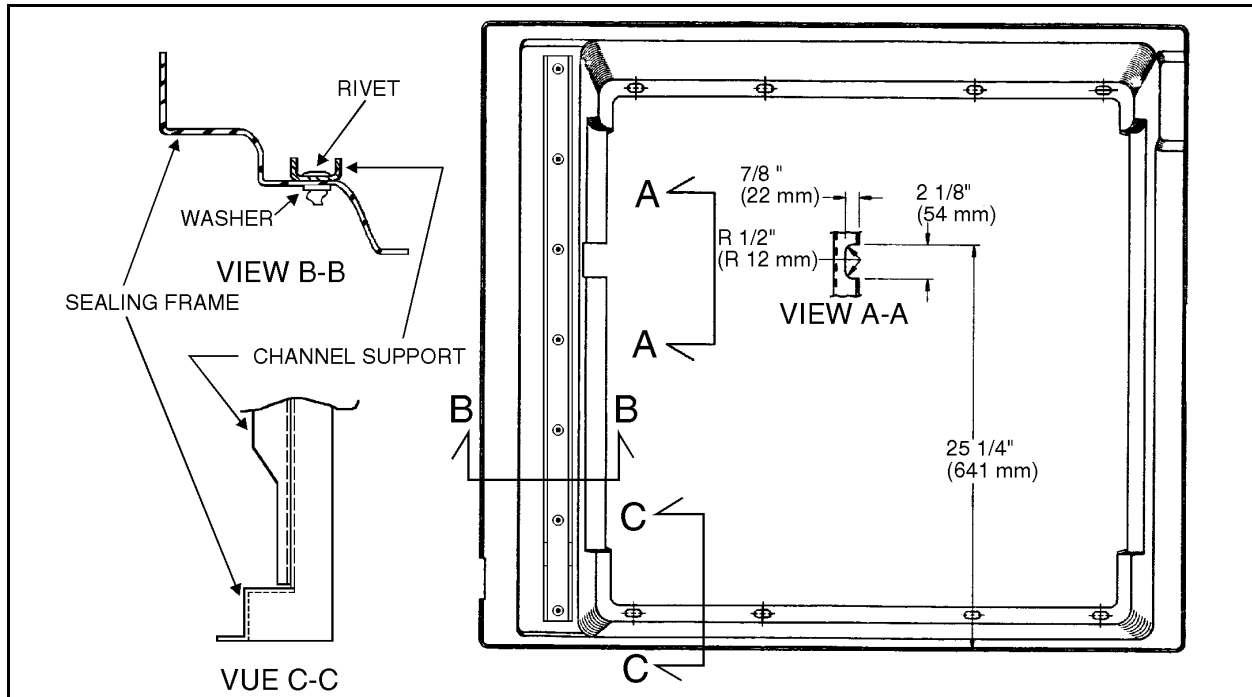

FIGURE 6: RADIATOR SEALING FRAME
- Remove sealing frame (Fig. 6). To do so, remove screws, bolts and washers all around the sealing frame. On H3-41 and H3-45, rivets that support door retaining strap must be removed.
- Cut hole in sealing frame, refer to View A-A on figure 6 for dimensions.
- Place channel support (Prévost #051986) on radiator sealing frame (Fig. 6). Horizontally, channel support should be 1/4" farther than the radius end. Vertically, center channel support on sealing frame.
- Drill sealing frame with a 1/8" (3 mm) drill in the channel support holes (7). For each hole (7), place pop-up rivet 1/8" X 3/8" (Prévost #504339) and washer (Prévost #500437) (Fig. 6).